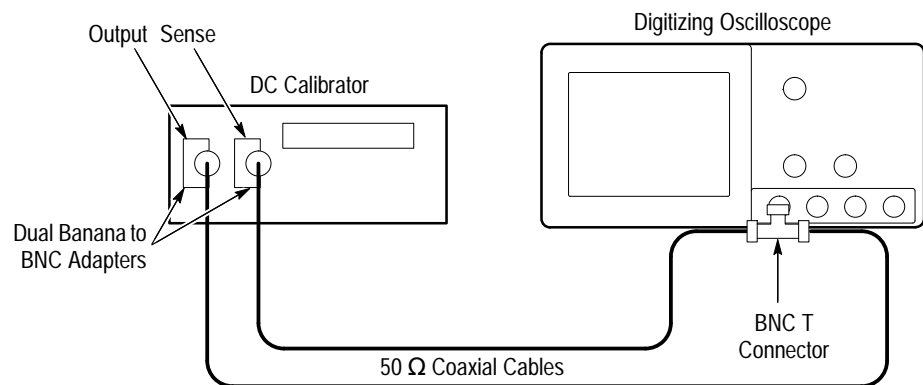

Figure 1–5: Initial Test Hookup
- Connect the output of a DC calibration generator through a dual-banana connector followed by a 50  $\Omega$  precision coaxial cable to one side of a BNC T connector (see Figure 1–5).